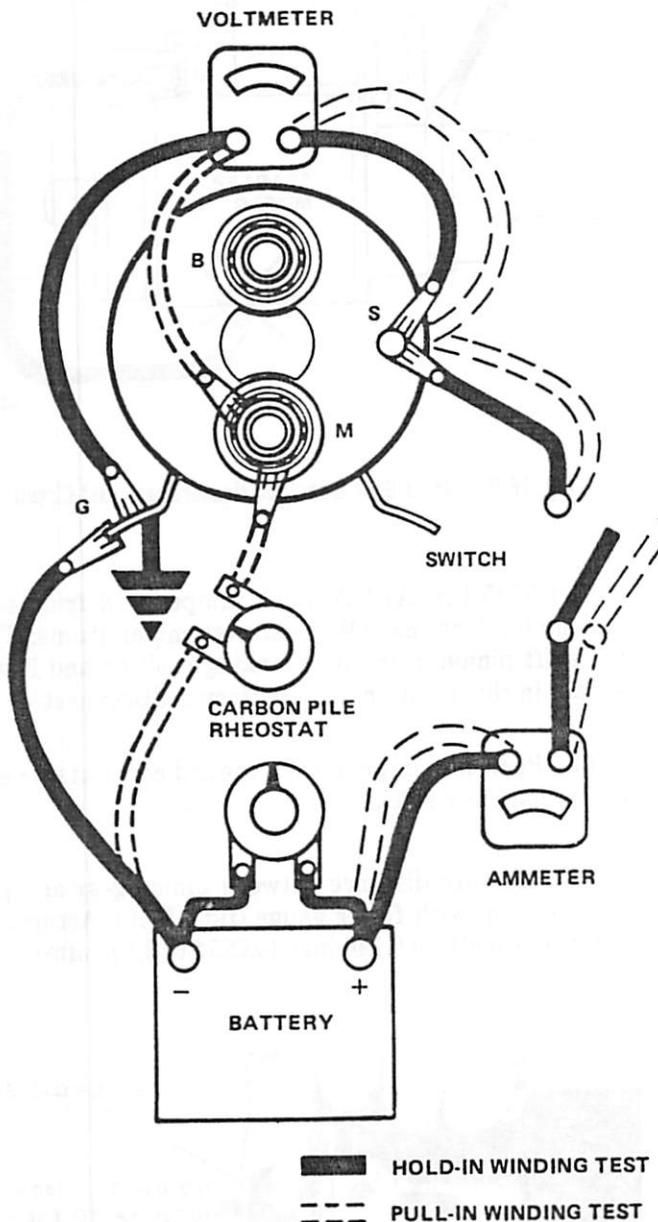

Fig. 1F-6 Solenoid Test Connections
(1) Shorts to grounds—Disconnect field winding ground connection. Connect one test lamp probe to motor frame and other to field winding connector. If lamp lights, field windings are shorted to ground and must be repaired or replaced. If windings are not shorted, reconnect winding to ground. This test cannot be made if ground connection cannot be disconnected.
(2) Open circuits—Connect test lamp probes to frame and field winding connector. If lamp does not light, field windings are open. If field windings are found to be defective, frame and field winding assembly must be replaced. Windings cannot be replaced separately because of integral frame construction.
- **Solenoid**—A basic solenoid circuit is diagrammed in figure 1F-1. Solenoids can be tested electrically by connecting a battery of the specified voltage, a switch, and an ammeter to the two solenoid windings. With all wires disconnected from the solenoid,
make test connections to the solenoid switch terminal and to ground to test the hold-in winding (fig. 1F-6). Use the carbon pile rheostat across the battery to decrease the battery voltage to the value listed in specifications. Compare the current flow with the value listed in Specifications. A high current flow indicates a shorted or grounded hold-in winding, and a low current flow indicates excessive resistance.
To test the pull-in winding, connect the battery across the solenoid switch (S) terminal and the Solenoid motor (M) terminal. To reduce the voltage to the specified value, connect the carbon pile rheostat between the battery and M-terminal as shown with dashed lines (fig. 1F-6) instead of across the battery as shown with solid lines. If not needed, connect a jumper directly from the battery to the M-terminal.